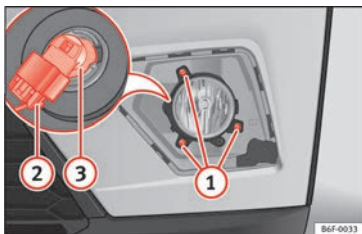

Fig. 114 Fog light: remove the bulb holder
2. Remove the 3 screws » Fig. 114 ① and remove the fog light.
3. Remove the bulb connector ②.
4. Turn the bulb holder ③ to the left and pull.